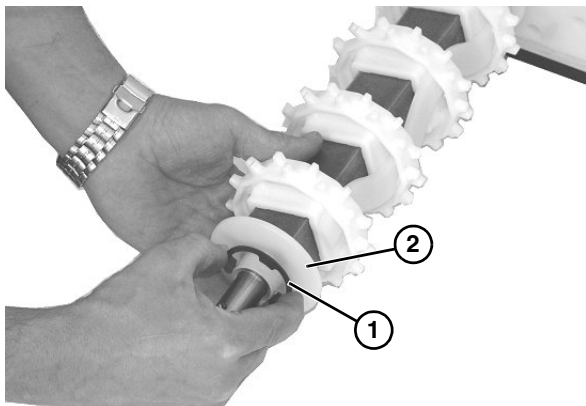

Figure 36
9. Remove retaining clip (**Figure 36, item 1**) and flanged puck (**Figure 36, item 2**) from drive spindle.